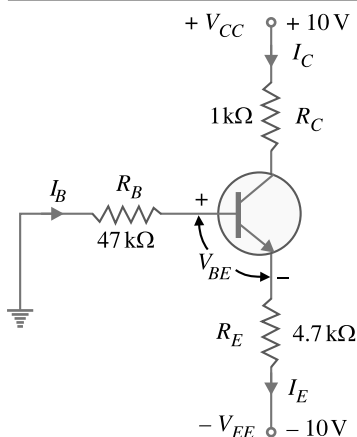

Fig. 6.44
**Example 6.30.** Determine the  $Q$  point of the transistor circuit shown in \*Fig. 6.44. Also draw the d.c. load line. Given  $\beta = 100$  and  $V_{BE} = 0.7$  V.
**Solution.** The transistor circuit shown in Fig. 6.44 may look complex but we can easily apply Kirchhoff's voltage law to find the various voltages and currents in the \*circuit.